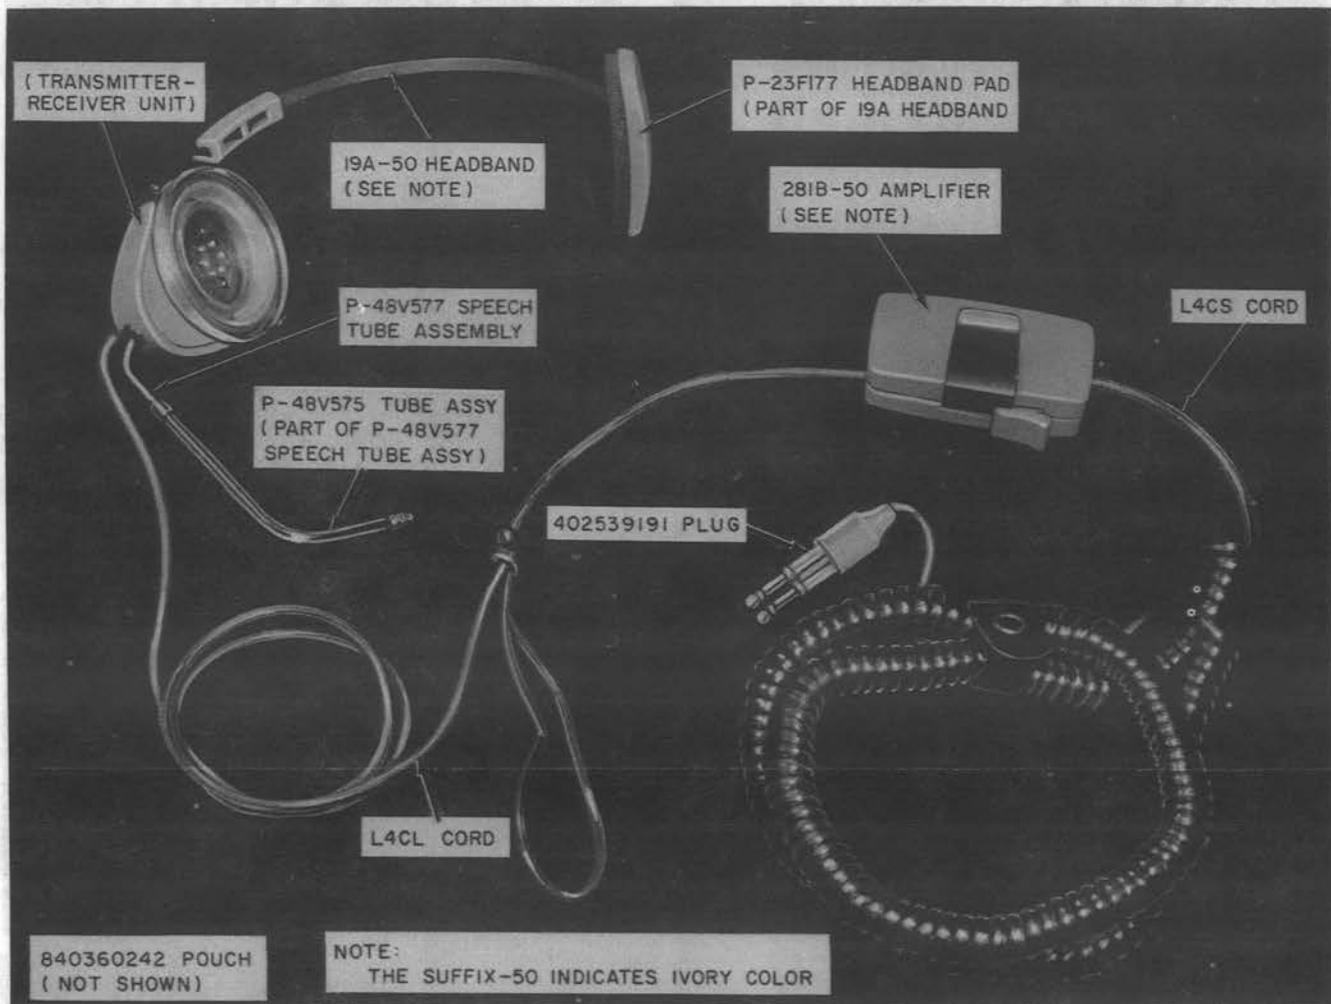

Fig. 3—60D Head Telephone Set
4.15 L4CS Cord (Fig. 3): Replace the L4CS cord as follows.